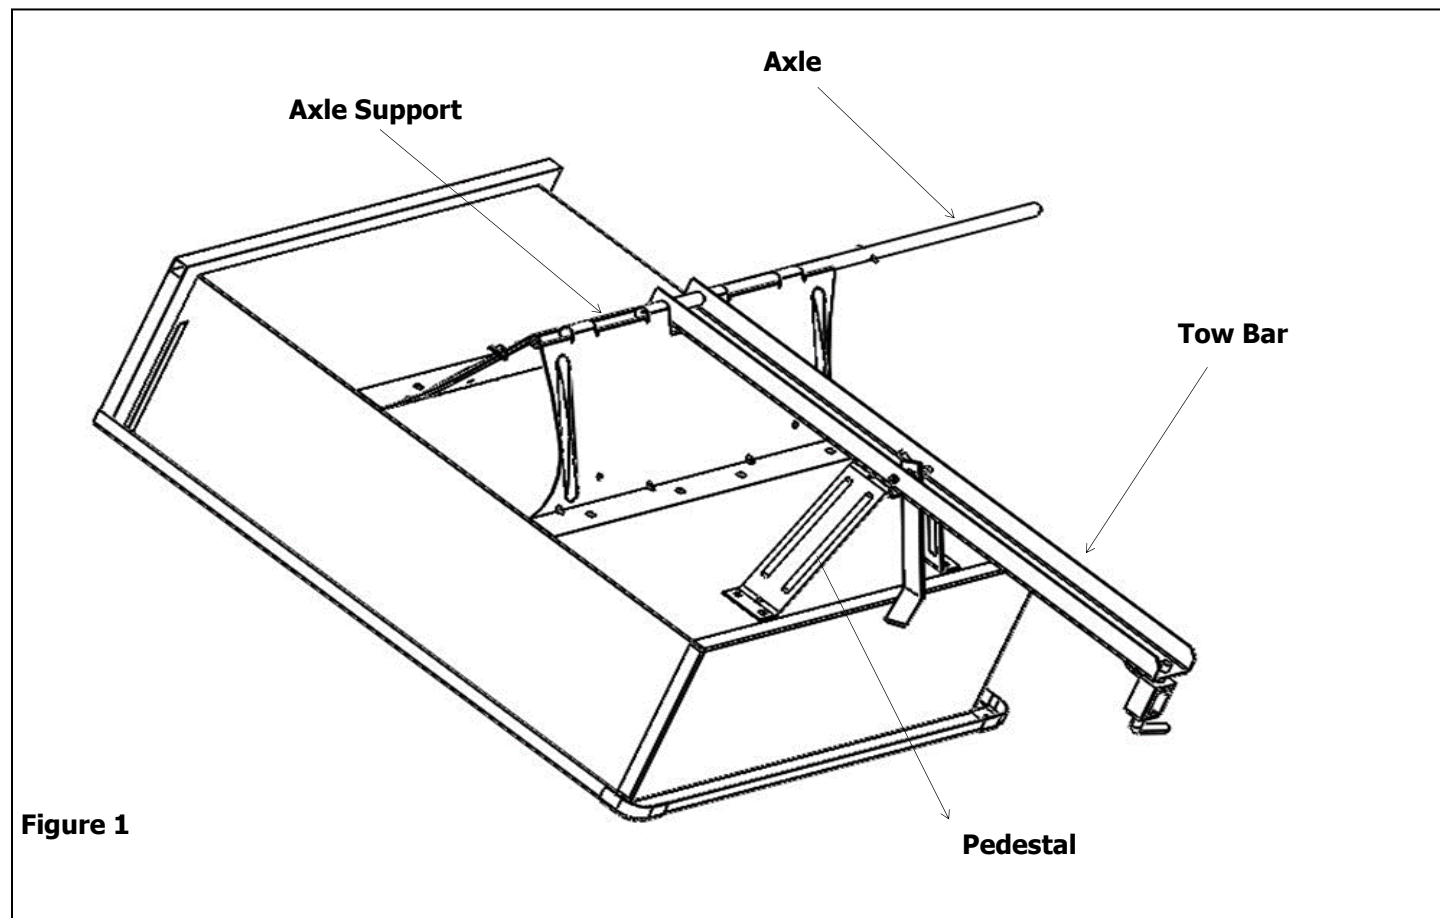

Figure 1
1. Place Tow Bar onto Pedestal and into center slot of Axle Support. Slide the Axle through Axle Support and Tow Bar Assembly. See Figure 1.